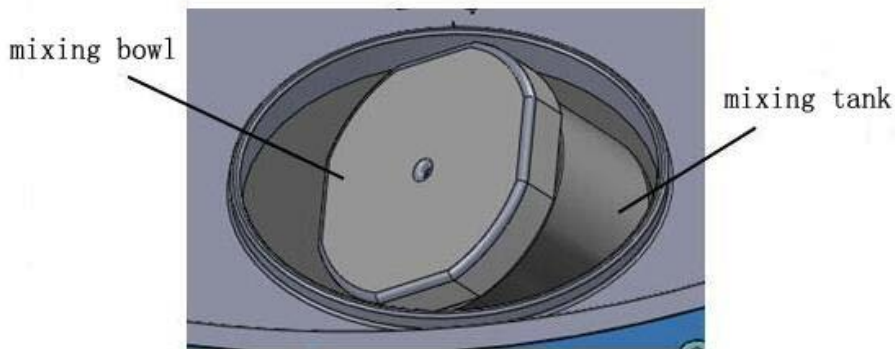

Figure 3.
4、 Screw tight of the mixing bowl cover, put the mixing bowl into the mixing tank, see Figure 3, then turn left and right of the mixing bowl to make sure the mixing bowl is in the right place.